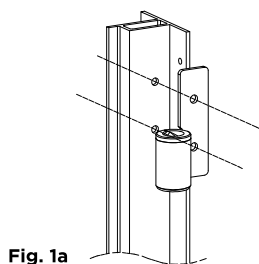

Fig. 1a
1. Identify the top hinge pilot hole location and mark wall post. Refer to the diagram above. Once the top hinge pilot holes are marked, use the hinge half as a template to mark the second hinge hole on the wall post. Drill **through** marked hinge holes using 1/4" drill bit. **Fig 1a.**